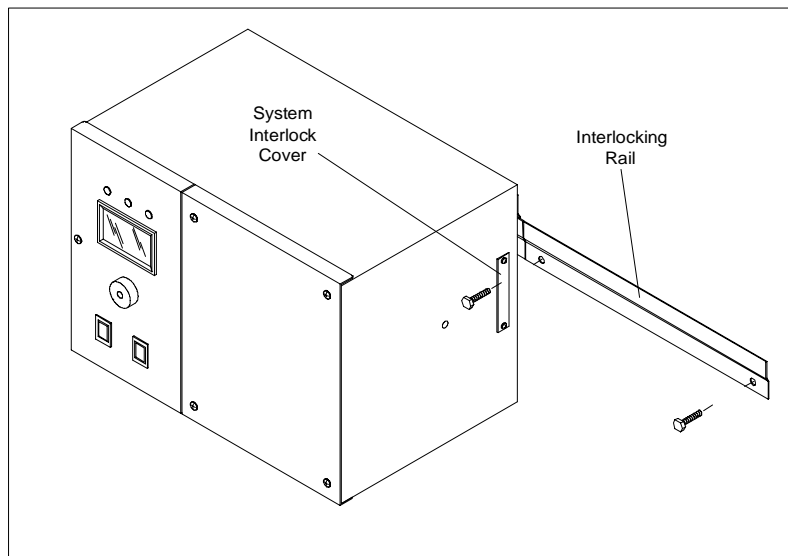

Figure 3 Removing the System Interlink cover and mounting the Interlocking Rail
Step 2: Remove the system inter-link cover, located on the right-hand side of the main data chassis. Refer to *figure 3*.